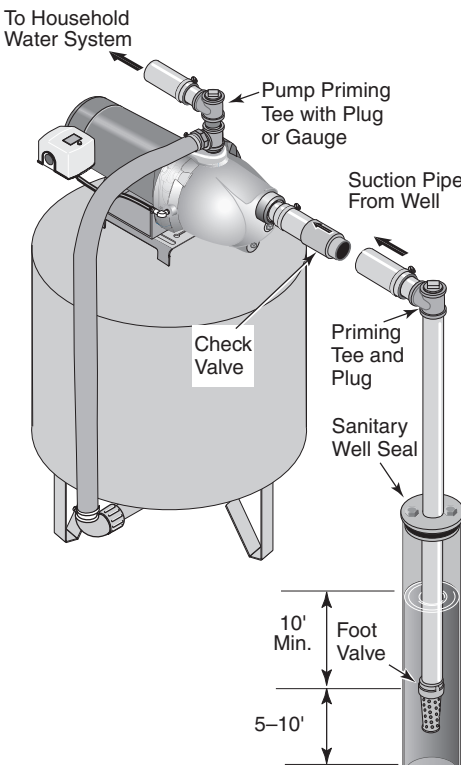

Figure 2 - Cased Well Installation
Cased Well Installation, 2” or Larger Casing (Figure 2)
2. Assemble the foot valve, strainer, and well pipe (see Figure 2). Make sure that the foot valve works freely.
4. Install a priming tee, priming plug, and suction pipe to the pump (see Figure 2). Connect the pipe from the well to the pump suction port, using the fewest possible fittings – especially elbows – as fittings increase friction in the pipe (however, include a foot valve – see Figure 2). The suction pipe should be at least as large as the suction port on the pump. Support the pipe so that there are no dips or sags in the pipe, so it doesn't strain the pump body, and so that it slopes slightly upward from the well to the pump (high spots can cause air pockets which can air lock the pump). Seal the suction pipe joints with PTFE pipe thread sealant tape or a PTFE-based pipe joint compound. Joints must be air- and water-tight. If the suction pipe can suck air, the pump cannot pull water from the well.